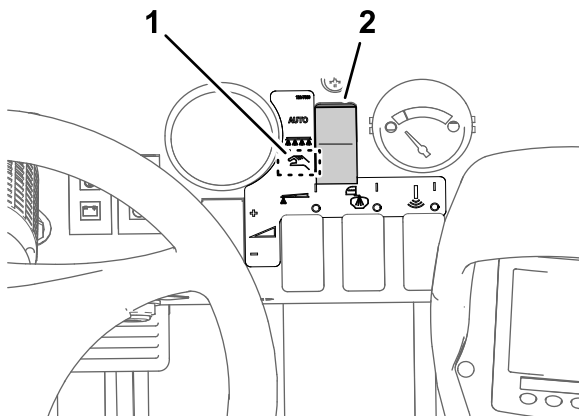

Figure 45
- Set the sprayer mode switch to the manual position (Figure 45).
- Press button 2 to advance to the next step (Figure 45).